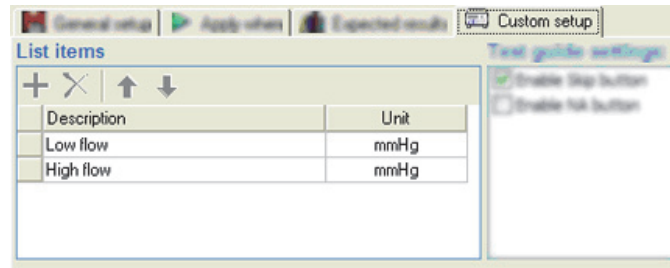

Figure 3-40. Adding Limits to Numerical List
1. Create a numerical list and define the list items in the **Custom Setup** page. This example creates two list items named “Low Flow” and “High Flow”, both with mmHg as measured units. Figure 3-40 shows created list items.